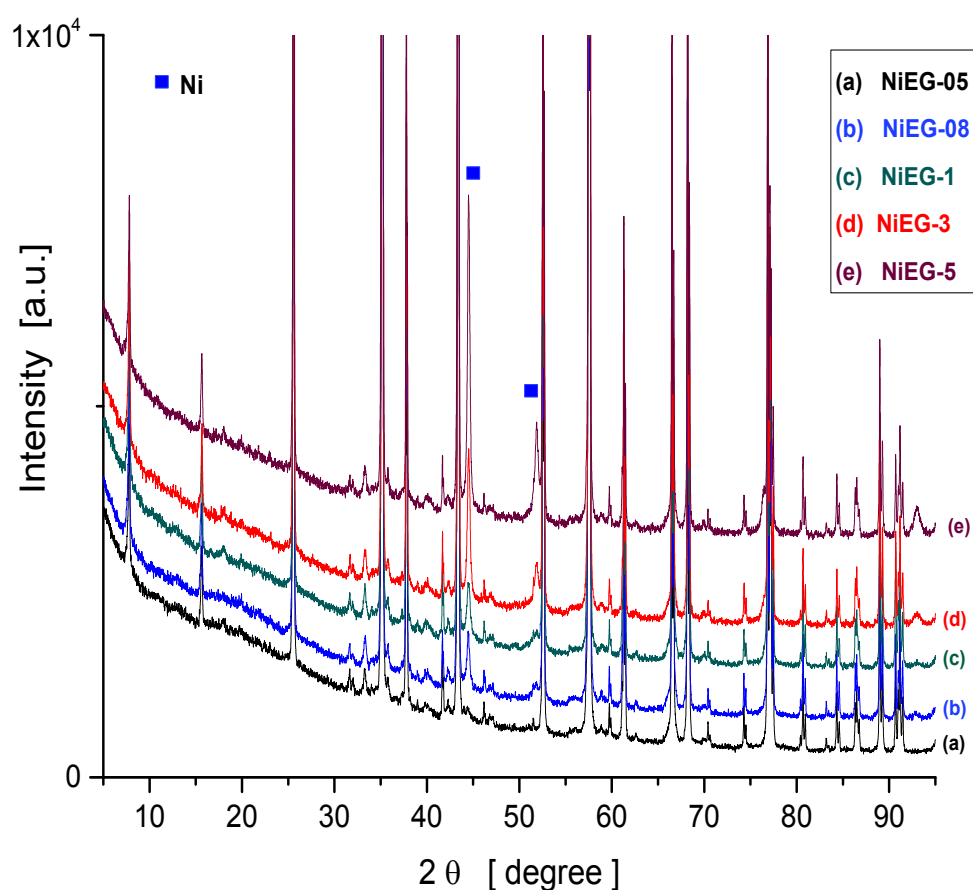

Figure S1. XRD patterns of the Ni/Al2O3 catalysts: (a) NiEG-05; (b) NiEG-08; (c) NiEG-1; (d) NiEG-3 and (e) NiEG-5.
The X-ray diffraction patterns of the Ni/Al2O3 catalysts were recorded using a Philips X'Pert Pro diffractometer in the 2θ range of 2-95° with a scan speed of 2°/min (see Figure S1). The XRD patterns showed crystallized alumina. All catalysts (except NiEG-05 catalyst) showed a large main band at 2θ = 44.5°, characteristic of metallic nickel phase of *fcc* structure. The peaks at 44.51° and 51.8° can be assigned to (111) and (200) crystalline plane diffraction, respectively. The (111) characteristic peak at 44.5° for NiEG-1 catalyst is almost not detected. The existence of a very weak signal could confirm a very small metal nickel particle in the catalyst. Moreover, the XRD patterns also reveal that there is no mixed oxide phase formed between Ni and Al2O3.